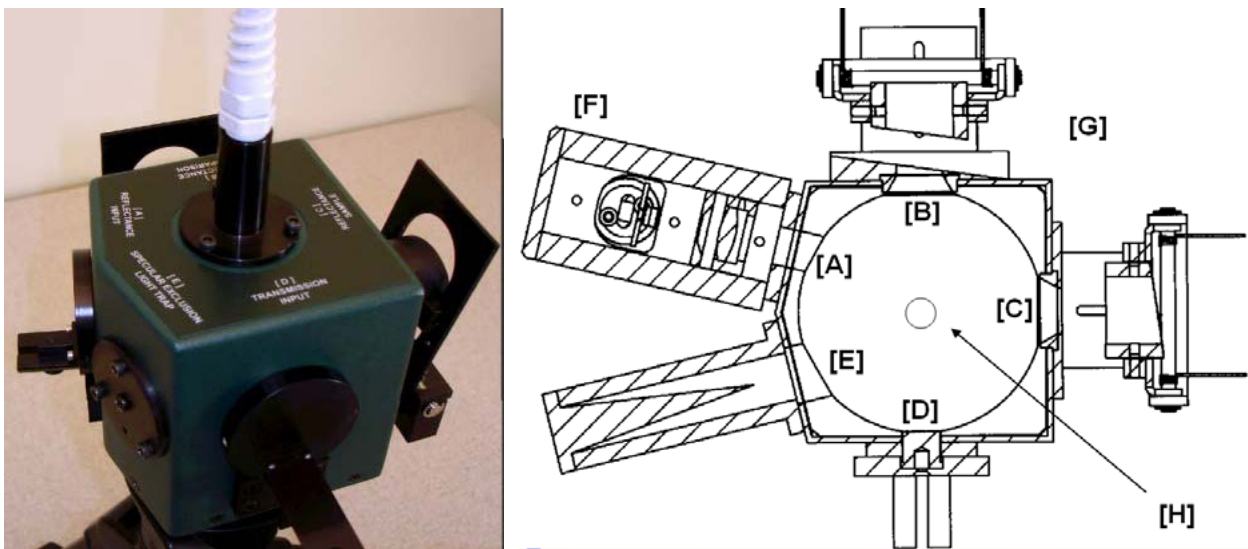

Fig 1. ASD Integrating sphere and scheme showing the position of the different ports
- Mount the integrating sphere on the tripod and attach the spectrometer bare fibre through its top port (Port H in fig 1).